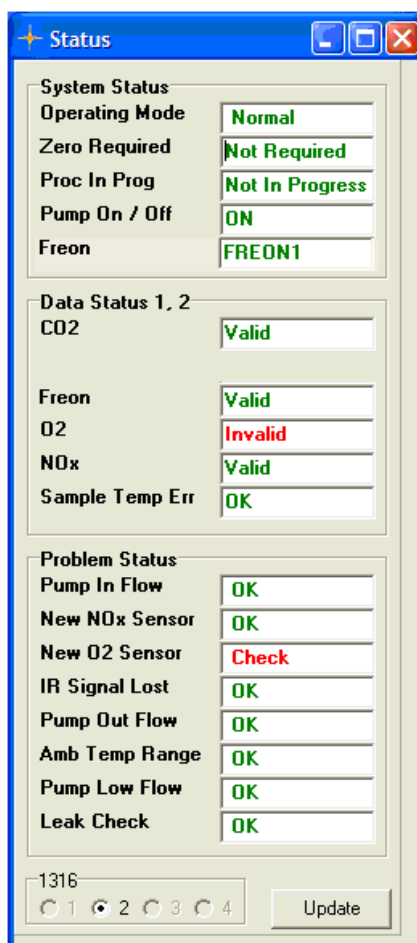

Figure 4.9 . The Status Window displaying " New O2 Sensor Required".
7. If the O2 sensor's output is lower than a flash-memory-resident minimum value, the New O2 Sensor Required warning is shown see figure 4.9.